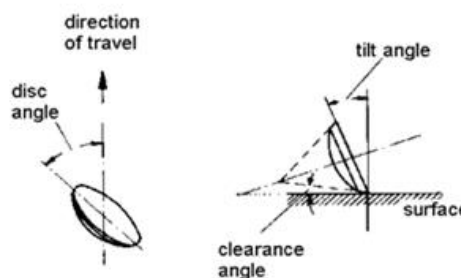

Figure 1.7. tilt and disc angle
- The discs are tilted backwards at 15-25° to the vertical (Fig 1.7).
- The plane of the disc face is angled at 42-45° horizontal angle from the direction of travel (Fig 1.7).